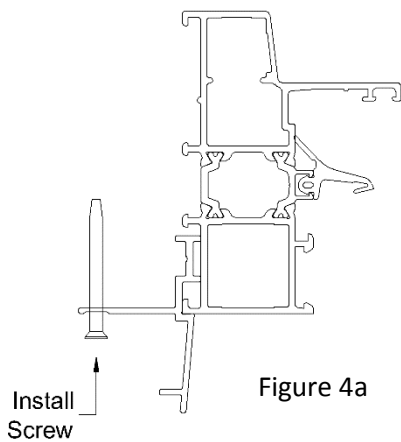
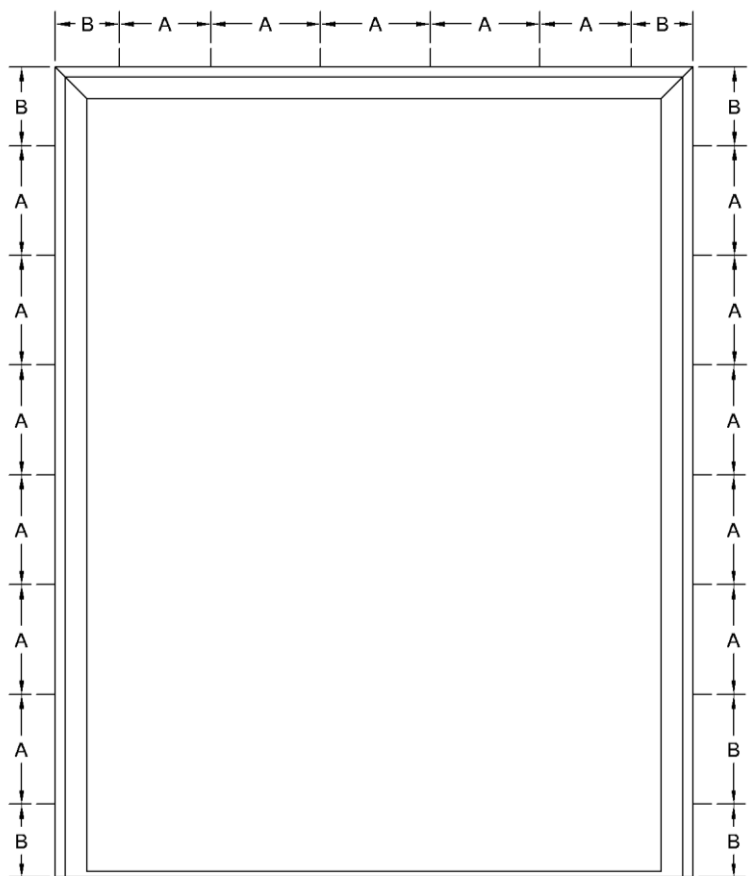

Figure 4a
Figure 4b
8. Secure door frame using self-tapping screws. Install screws on the linear fin indicator as shown in figure 4a; spacing should be as shown in figure 4b where A = 12" and B = 4"